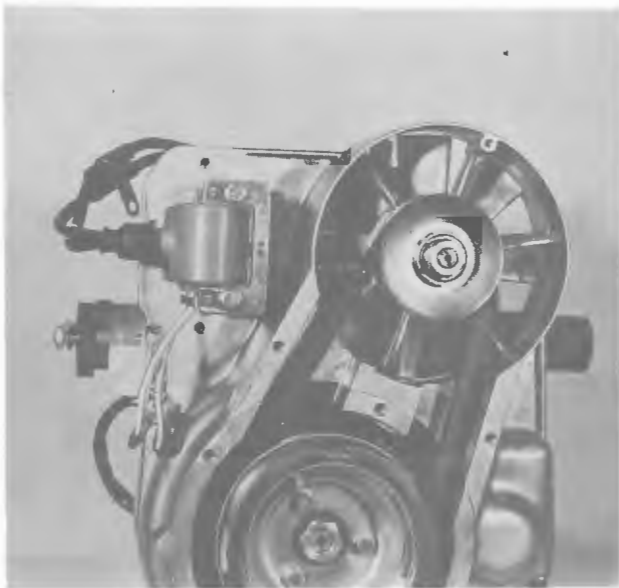

FIGURE 5-11 HIGH TENSION COILS INSTALLED
- b. Install and secure high tension ignition coils to fan cover using two 6 x 65 attaching bolts and spacers. Connect low tension wires to ignition coupler. Figure 5-11